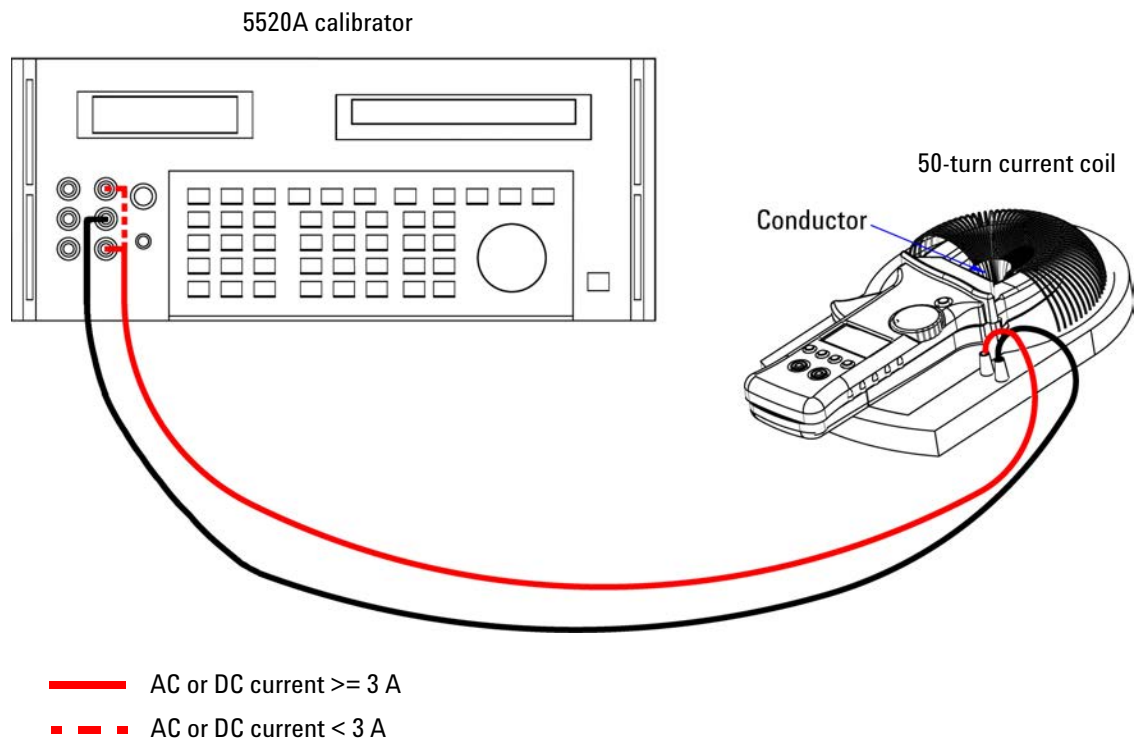

Figure 6-2 Current performance verification test setup
- 1 Place the clamp meter to a 50-turn current coil as per Figure 6-2, “Current performance verification test setup,” on page 94.